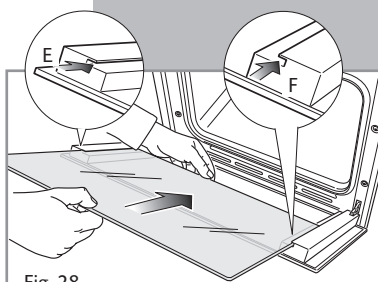
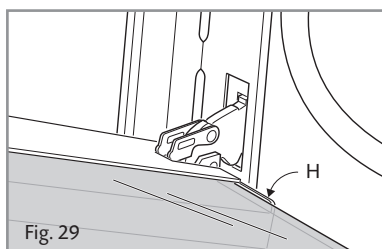

Fig. 28
Fig. 29
- Insert the pane in the left **E** and right **F** slide guides (fig. 28), and gently slide it to the retainers **H** (fig. 29).